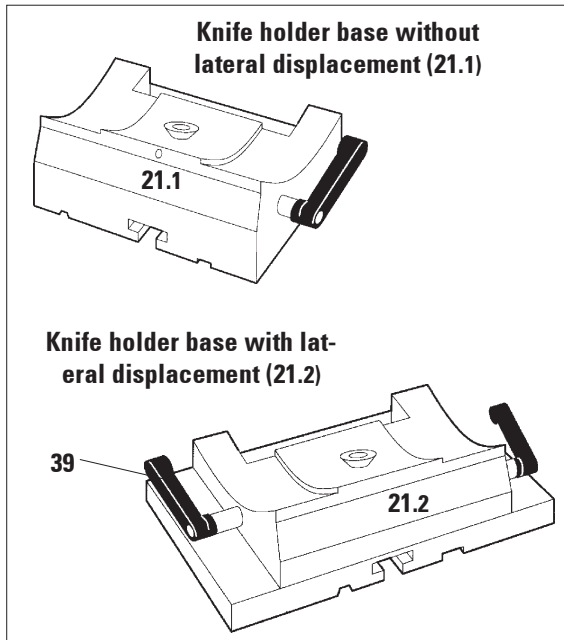

Fig. 25
- To release the clamping mechanism rotate clamping lever (39, Fig. 25) (located on the left side of the knife holder base) forward.
- To retighten the clamping mechanism rotate lever (39) backward.